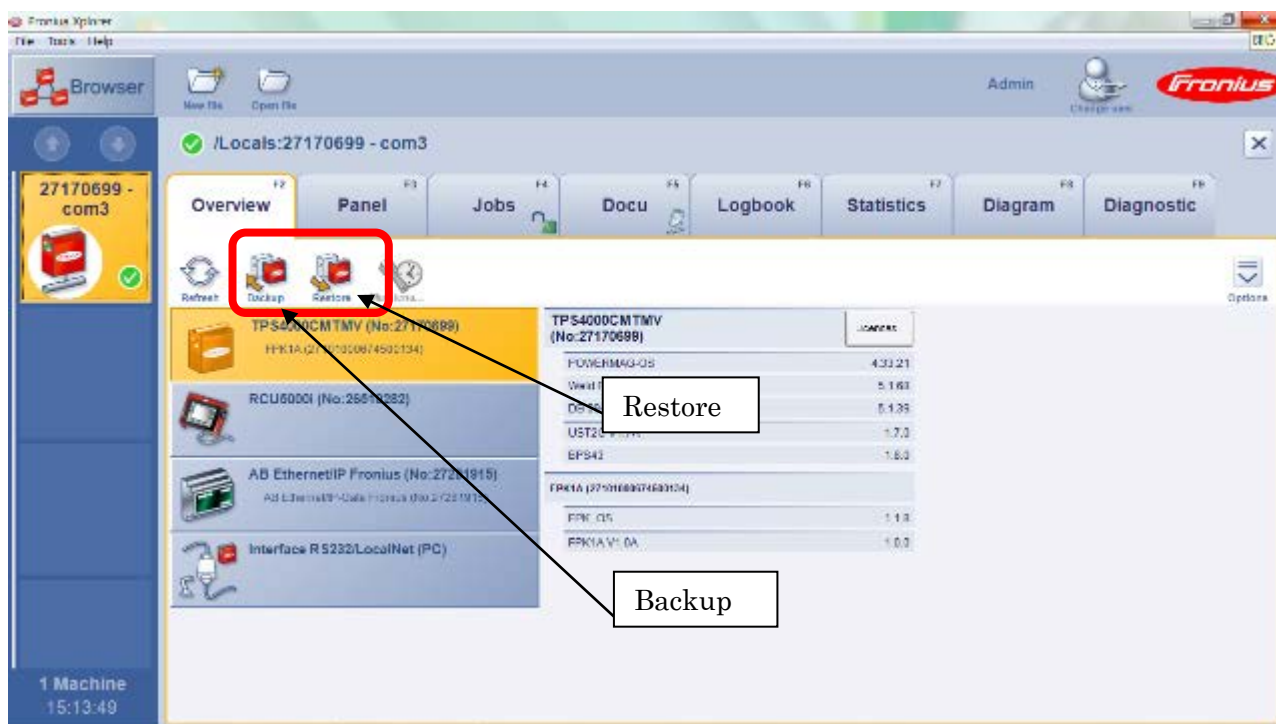

Fig. 4.4.6 Icon position of the back up
- 1 Click the “Restore” in the screen of Fig.4.4.6 .